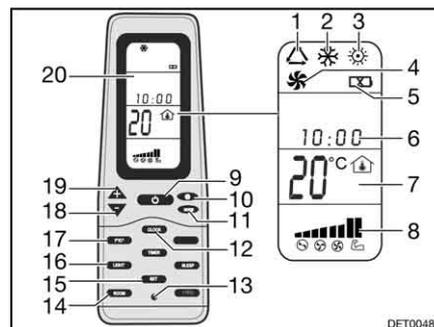

Fig. 150 Remote control
- Press the ON/OFF button (Fig. 150,9).
- Press the "Mode" button (Fig. 150,11) as often as required until the required mode (Fig. 150,1, 2, 3 or 4) is indicated on the display (Fig. 150,20).
- Use the "+" (Fig. 150,19) and "-" (Fig. 150,18) buttons to set the desired temperature.
- Use the fan speed button (Fig. 150,10) to select the desired fan level.